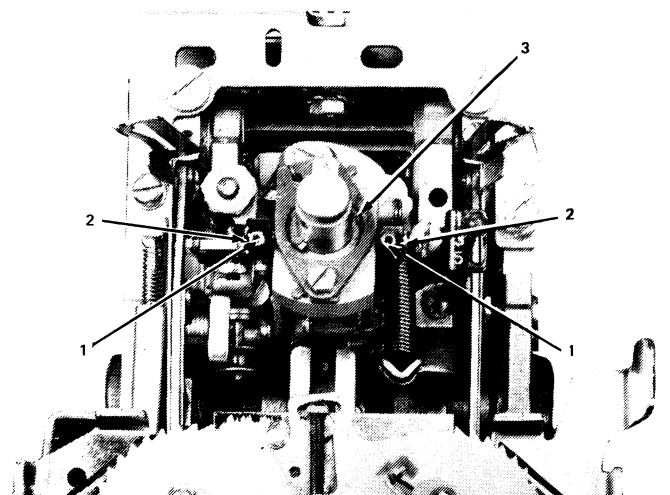

Figure 4-16. Lower Ball Socket and Tilt Ring Removal (Top of Carrier)
5. Loosen the two setscrews (No. 1, Figure 4-16).
6. Remove the two pivot pins (No. 2, Figure 4-16).
7. Remove the tilt ring (No. 3, Figure 4-16) and ball joint.